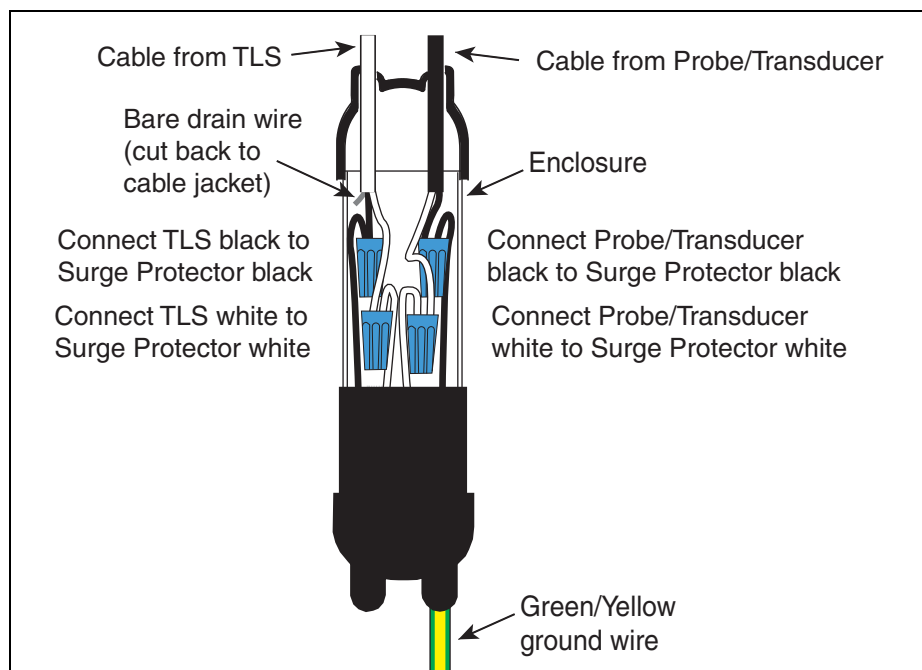

Figure 13. Splice Connections
3. Make the connections to the four black and white wires in the surge protector using wire nuts as shown in Figure 13] Cut off the TLS cable's bare shield wire at the cable jacket.